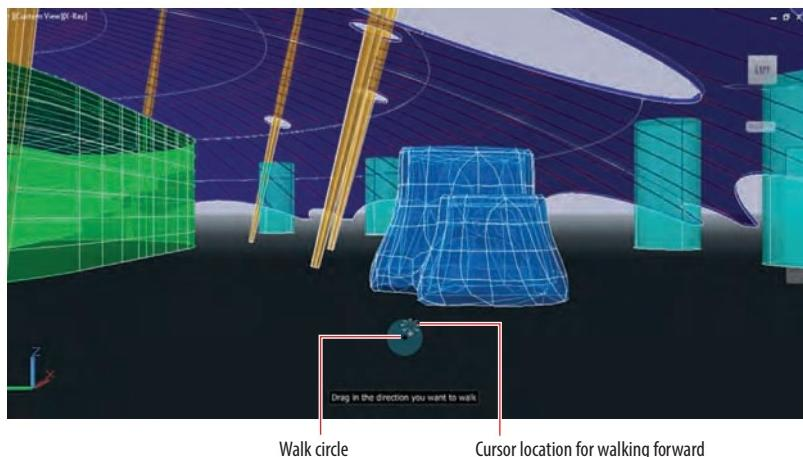

FIGURE 16.20 Walking under the dome
2. Position the cursor over the Walk tool within the inner donut hole of the Full Navigation SteeringWheel. Click and hold the mouse button and observe a walk circle appear in the lower portion of the drawing canvas. Drag the cursor relative to the walk circle to move in that direction (see Figure 16.20). The further from the walk circle you drag, the faster you walk in that direction. Release the mouse button.